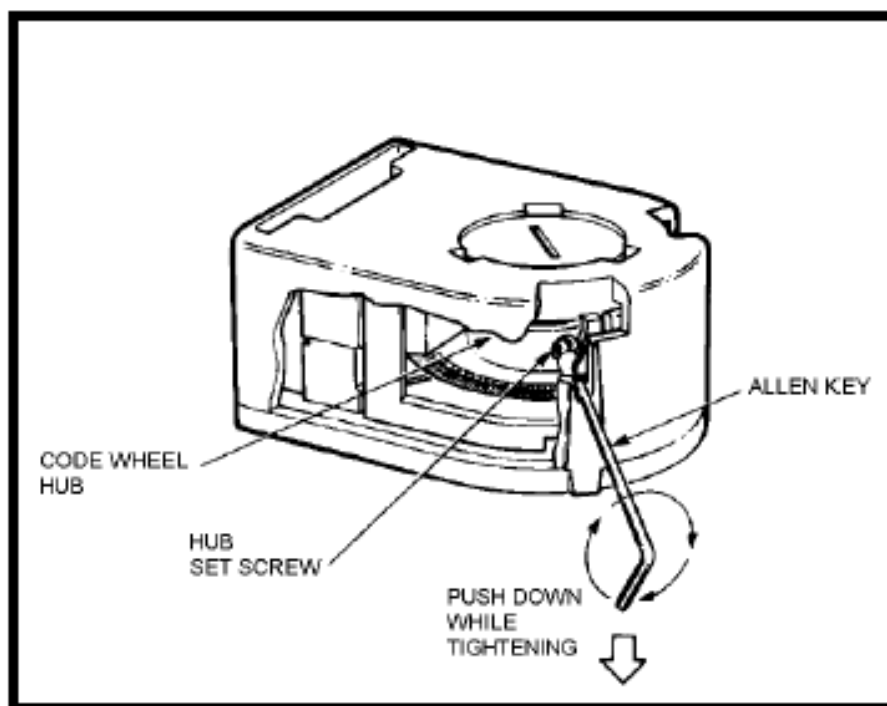

Figure Q-18: Setting the Encoder
5. Push the Allen Key into the body of the encoder to ensure that it is properly seated into the code wheel hub set screw. Then, apply a downward force on the end of the Allen Key as shown in Figure Q-18. This sets the code wheel gap by levering the code wheel hub to its upper position.